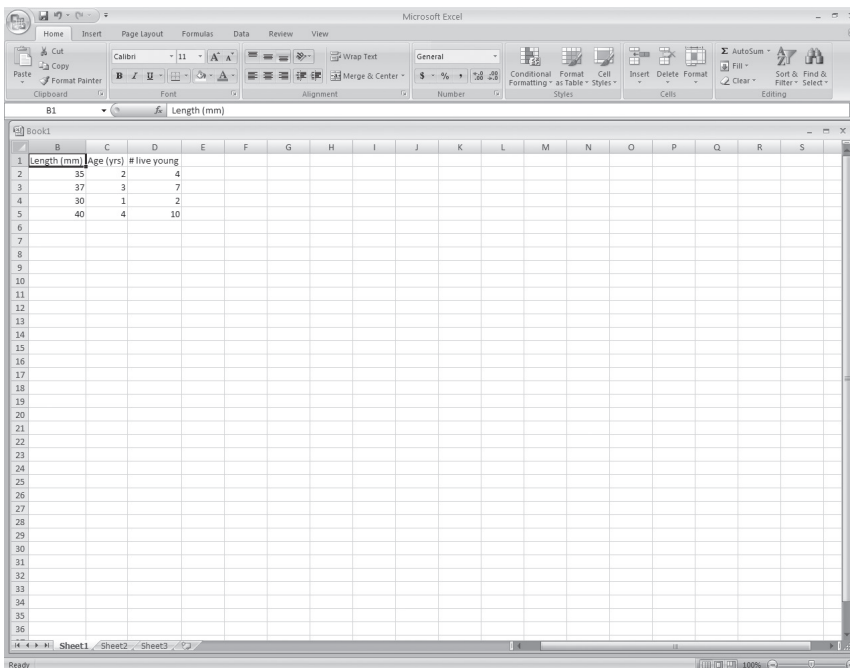

Figure R2.2 | Data Entered into Columns in a Spreadsheet
- a. Place your data in adjacent columns with each column representing a variable (see Figure R2.2).